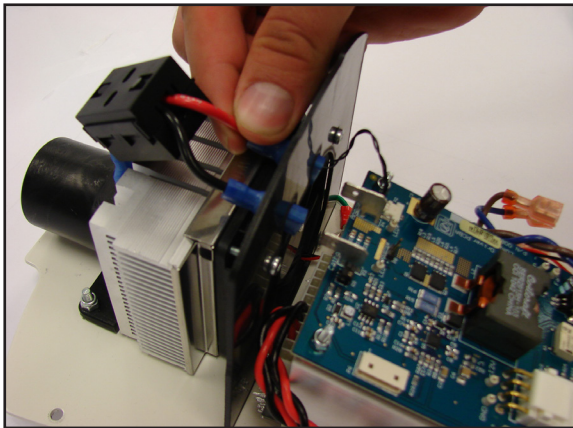

Figure 11-11
3. Disconnect the LED anode and cathode wires from the LED driver board and pull them away from the baffle (Refer to Figure 11-11).